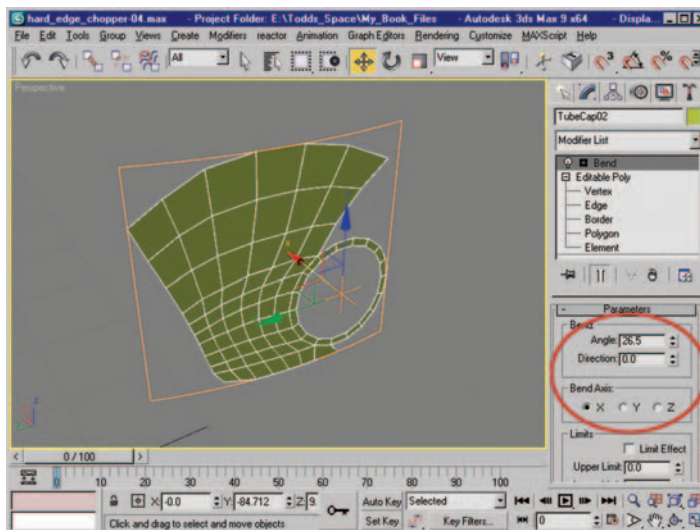

Figure 8.14 Mesh with Bend applied. Bend is along the X-axis with a value of 26.5.
15. Before performing the next shift-drag, add a Bend modifier with a Bend value of 26.5 and check the X radio button to give the mesh a slight curve from front to back. This serves a couple of purposes: first, it physically makes sense that the bike's body would not be perfectly straight. Second, the slight curve will result in better reflections later on when it comes time to render this model. Figure 8.14 shows the mesh with Bend applied as well as the Bend settings.